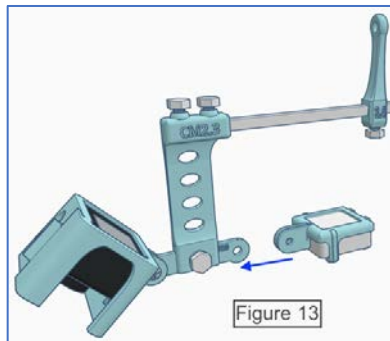

Figure 13 - Attach Pocket Lab Pt. 1
Part 6 – Optional: Attach the PocketLab Mount to the Payload Mount (Figures 13 – 15)
1. Follow the same procedure as described in Part 4 to attach the PocketLab Weather instrument mount to the Payload Mount. (Figures 13 – 15)